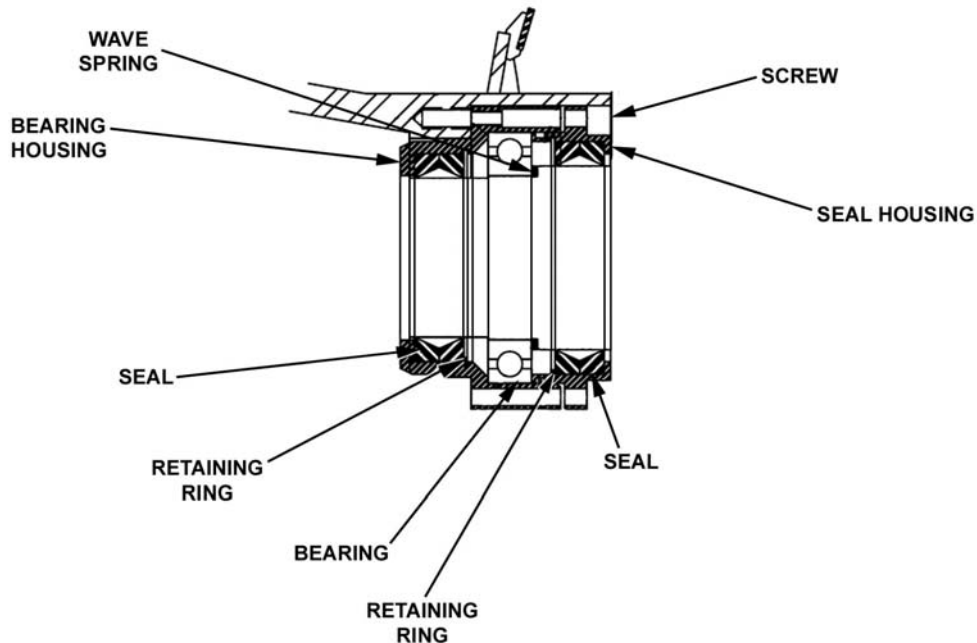

Figure 5-13 Solid End Conveyor Bearing installation
2. Remove screws securing seal housing and bearing housing (Figure 5-13) to conveyor, and remove seal housing and bearing housing. Separate seal housing from bearing housing.
1. Insert new seal into seal housing (Figure 5-13), and secure with retaining ring.